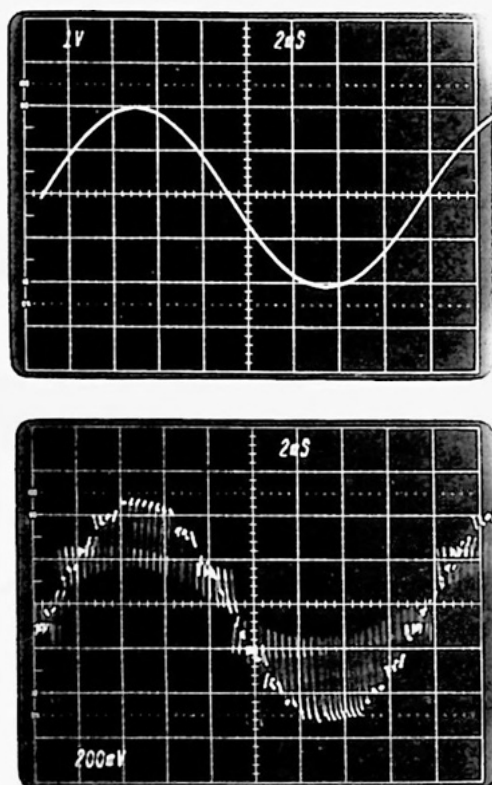

Figure 6-25 _____
Step 14 — Observe the oscilloscope display. You should observe a waveform similar to that pictured in Fig. 6-25.